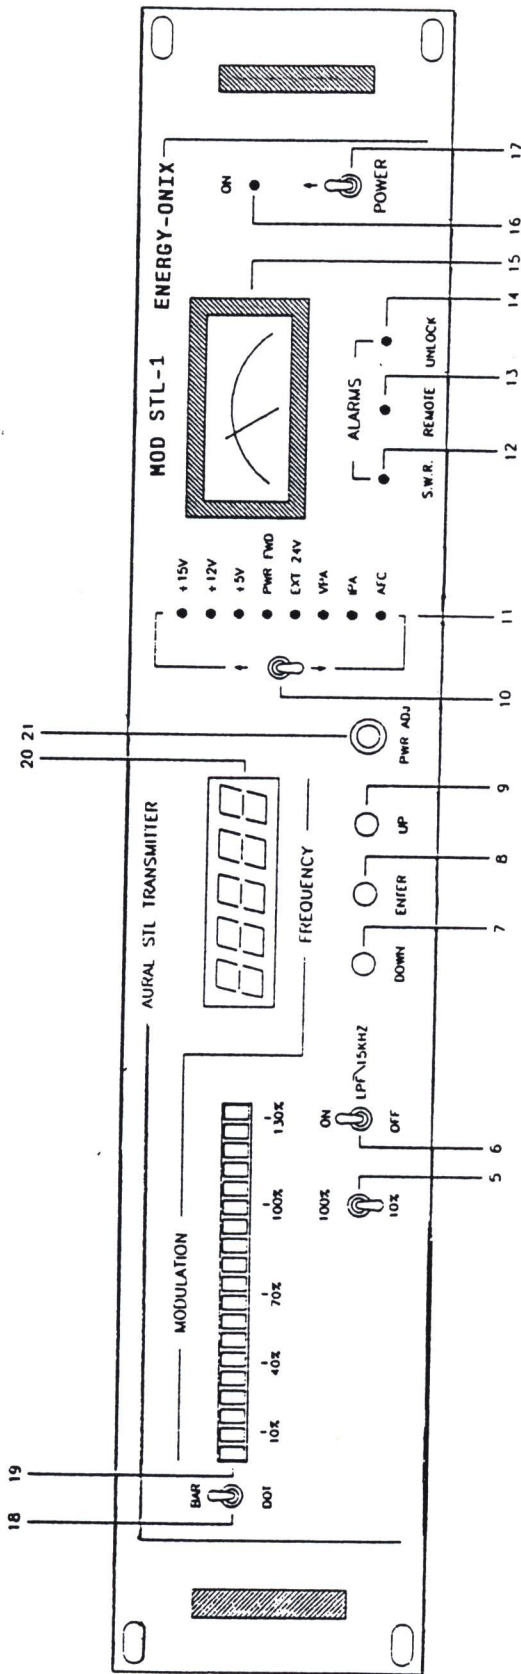

FIG. 1
THE TRANSMITTER'S OPERATING PARAMETERS CAN BE MEASURED WITH THE ANALOG MULTIMETERS (# 15 FIG. 1) AND THE LED BAR-GRAPH DISPLAY (# 19 FIG. 1) SITUATED ON THE FRONT PANEL. THE MEASUREMENT BEING MADE BY THE ANALOG MULTIMETER IS INDICATED BY A LED INDICATOR (# 11 FIG. 1) AND SELECTABLE VIA THE CORRESPONDING CONTROL (#10 FIG. 1).
THE FIVE-FIGURE DISPLAY (# 20 FIG. 1), MOUNTED CENTRALLY, INDICATES THE OPERATING FREQUENCY SELECTED BY THE UP (# 9 FIG. 1) AND "DOWN" (# 7 FIG. 1) CONTROLS AND SAVABLE WITH THE "ENTER" (# 8 FIG. 1) CONTROL. THREE ALARM CONDITION LEDS PROVIDE INDICATION OF VCO UNLOCKED (# 14 FIG. 1), EXCESS STANDING WAVES ON THE OUTPUT (#12 FIG. 1) AND INTERVENTION BY A REMOTE COMPUTER (# 13 FIG. 1).
THIS CIRCUIT COMPRISES TWO CARDS AND A METER MOUNTED ON THE RIGHT HAND SIDE OF THE FRONT PANEL (# 3 PHOTO 1). THIS SUB-ASSEMBLY DISPLAYS THE VALUES OF VARIOUS OPERATING PARAMETERS OF THE EXCITER: INTERNAL VOLTAGES AND CURRENTS, DIRECT POWER AND EXTERNAL 24V. THE PARAMETERS ARE SELECTED BY A LEVER SWITCH (#10 FIG. 1) AND THE SELECTION IS INDICATED BY THE LEGEND OF THE GREEN LED (#11 FIG. 1). THE READINGS ARE TAKEN USING THE CORRESPONDING SCALE:
THIS CIRCUIT ALSO FEATURES A RED "UNLOCK" LED (# 14 FIG. 1) AND A RED "REMOTE" LED (#13 FIG. 1), CONTROLLED BY THE MAIN CARD AND A RED SWR LED (# 12 FIG. 1), CONTROLLED BY THE POWER SUPPLY. IN ADDITION, THERE ARE: A RED POWER LED (# 16 FIG. 1), A POWER OUTPUT PWR TRMMER (# 21 FIG. 1) AND THE MAINS SUPPLY SWITCH (# 17 FIG. 1).
FRONT PANEL DESCRIPTION (FIG. 1)
FRONT PANEL DESCRIPTION (FIG. 1) (CONTINUED)
- 2) NOW ENSURE THAT THE PWR ADJ CONTROL (# 21 FIG. 1) IS ROTATED FULLY COUNTER-CLOCKWISE FOR MINIMUM POWER USING A SMALL SCREWDRIVER. SINCE THE CONTROL IS A TEN-TURN POTENTIOMETER, IT MAY BE NECESSARY TO DOUBLE-CHECK THE ADJUSTMENT.
- 5) SWITCH THE POWER SWITCH (# 17 FIG. 1) TO THE "OFF" POSITION.
N.B. IT IS ESSENTIAL THAT THE UNIT BE PROPERLY GROUNDED TO ENSURE 7) SWITCH THE POWER SWITCH TO THE "ON" POSITION AND CHECK THAT THE GREEN "POWER ON" LED (# 16 FIG. 1), THE RED "UNLOCK" LED (# 14 FIG. 1) AND THE LED CORRESPONDING TO THE PARAMETER SELECTION PWR FWD (# 11 FIG. 1), ARE ALL LIT. AFTER A FEW SECONDS THE CENTRAL DISPLAY (# 20 FIG. 1) WILL COME ON AND DISPLAY A NUMBER (IE. 760.00) CORRESPONDING TO THE LAST OPERATING FREQUENCY TO HAVE BEEN PROGRAMMED.
THE RED "UNLOCK" LED SHOULD SWITCH OFF WITHIN 30 SECONDS INDICATING THAT THE OSCILLATOR HAS LOCKED TO THE OPERATING FREQUENCY DISPLAYED. THE DISPLAY HAS FIVE DIGITS, 3 BEFORE THE DECIMAL POINT REPRESENTING (FROM LEFT TO RIGHT) HUNDREDS OF MHz, TENS OF MHz AND MHz; AND 2 AFTER THE DECIMAL POINT REPRESENTING HUNDREDS AND TENS OF KHz. TO CHANGE THIS NUMBER, USE THE "UP" (# 9 FIG. 1) AND "DOWN" (# 7 FIG. 1) BUTTONS TO RESPECTIVELY INCREASE IT AND DECREASE IT.
ONCE THE DESIRED FREQUENCY HAS BEEN FOUND, PRESS "ENTER" (# 8 FIG. 1) TO CONFIRM AND SAME IT.
TO MAKE THIS MEASUREMENT, ENSURE THAT THE PWR FWD LED IS ON BY SETTING THE METER SWITCH (# 10 FIG. 1) TO THE CORRESPONDING POSITION AND THEN TAKE THE READING FROM THE 10W FSD SCALE ON THE METER.
SET THE MODULATION BAR-GRAPH DISPLAY GAIN (# 5 FIG. 1) TO 100%.
CONNECT A LOW-DISTORTION AUDIO FREQUENCY GENERATOR TO THE "MONO" INPUT (# 2 FIG. 1) OR "STEREO" INPUT (# 4 FIG. 1).
CHECK THAT THE BAR-GRAPH DISPLAY (# 19 FIG. 1) LIGHTS UP TO THE FIRST RED LED, INDICATING 100% DEVIATION.
WITH THE DOT/BAR SWITCH (# 18 FIG. 1) IN THE "BAR" POSITION, ALL THE GREEN LEDS AND THE FIRST RED LED SHOULD BE ON; IN THE DOT POSITION ONLY THE FIRST RED LED WILL BE ON.
NOW DISCONNECT THE AUDIO GENERATOR AND ENSURE THAT ALL THE BAR-GRAPH LEDS GO OUT (# 19 FIG. 1).
SET THE CONTROL (# 5 FIG. 1) T 10% AND INJECT A 400 Hz TONE OF -30dBm (-20 dBm FOR THE AMERICAN VERSION) AND REPEAT THE PRECEDING OPERATION. THE PROCEDURE SHOULD BE FOLLOWED FIRST FOR THE "MONO" INPUT AND THEN FOR THE "STEREO" INPUT.